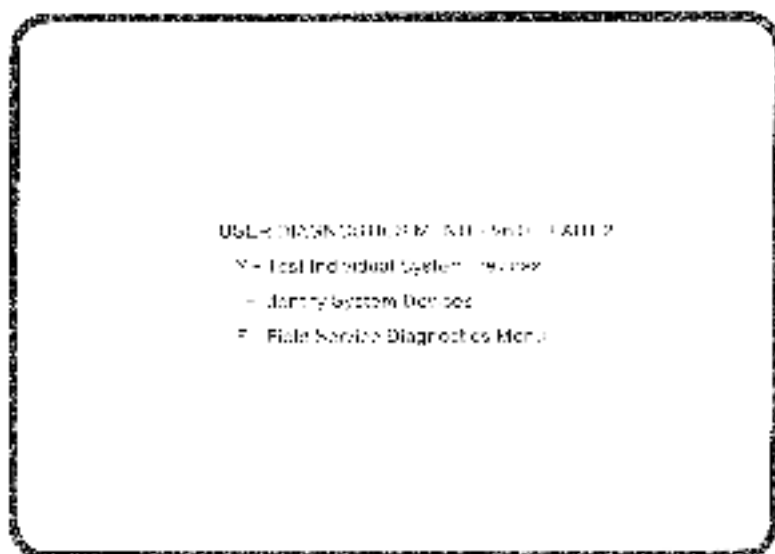

Figure 4-3 User Test Diagnostic Menu, Part 2
- The system displays the User Diagnostics Menu, part 2 (Figure 4-3).